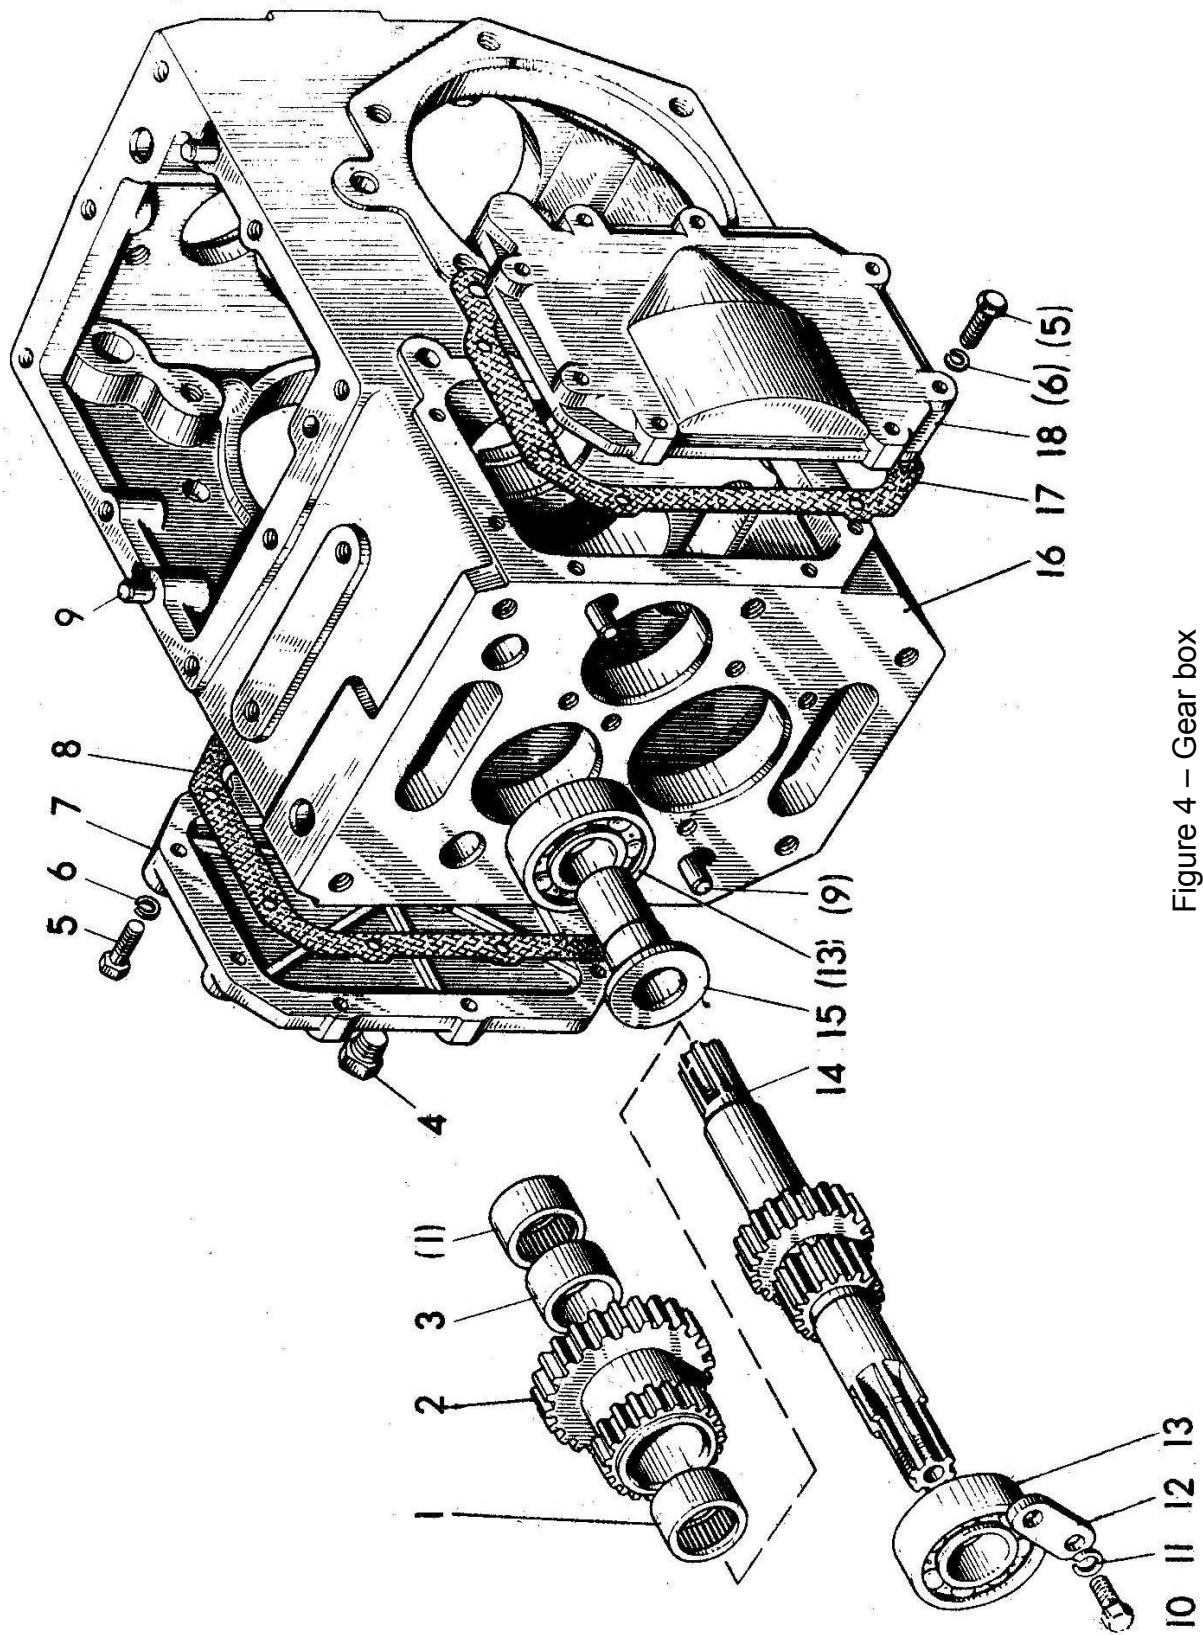

Figure 4 – Gear box
**05-1701. Gear box (figure 4)**